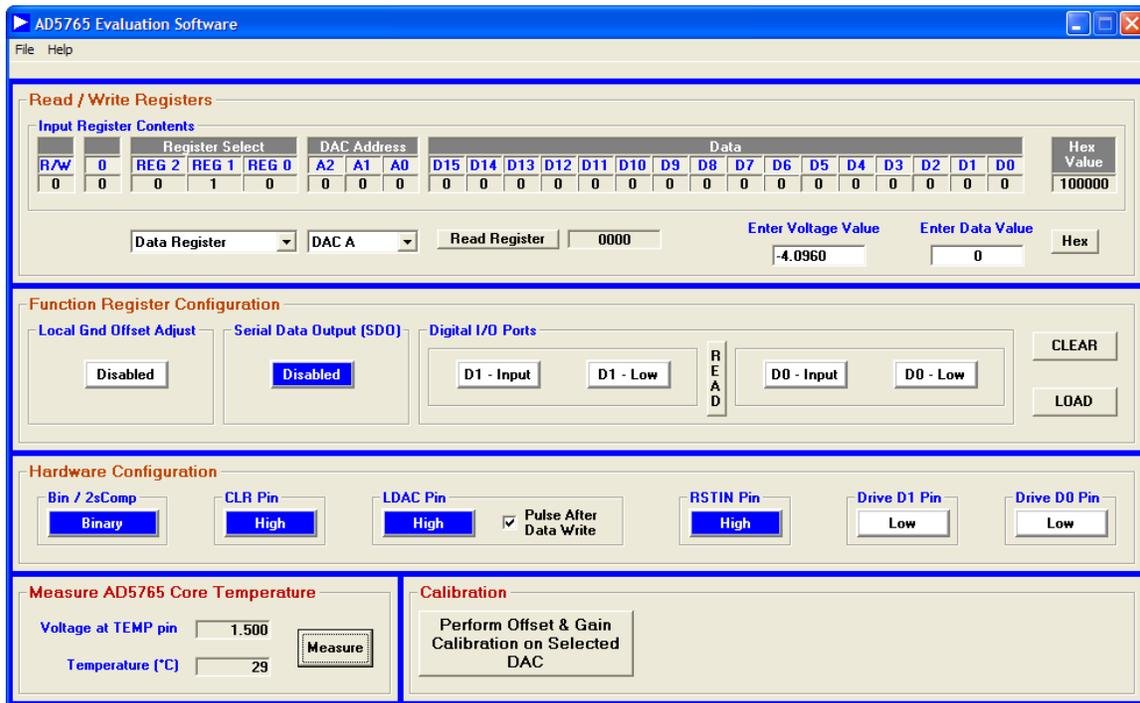

Figure 2. Main Window
2. Click **AD5765 Evaluation Software**. Figure 2 displays the main window.
The **Read/Write Registers** section allows you to write a value to, or read a value from, all of the **AD5765** registers. The logic values of all bits in the input register are also displayed. Access to the registers is via two drop-down boxes. The first drop-down box lets you select the required register, and the second drop-down box lets you select one of the four DAC channels. In the case of the function register, the second drop-down box is not available. Depending on the register selected, either another drop-down box (if coarse gain register is selected) or a text box is displayed. For instance, to write to the data register of DAC A, select **Data Register** from the first drop-down box and **DAC A** from the second drop-down box (see Figure 2). Two text boxes are now displayed where you can type a voltage value, **Enter Voltage Value**, or a 16-bit data value, **Enter Data Value** (the toggle button to the right selects whether the entry is in hex or decimal). Clicking the **Enter** key completes the write operation.